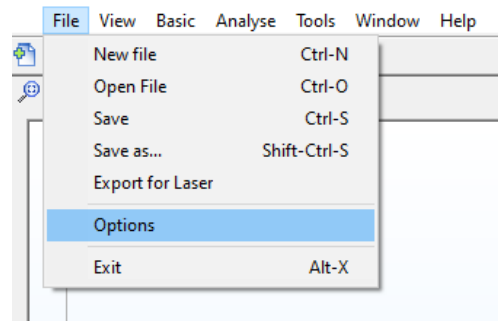

Figure 127
7. Open the Options Dialog (Figure 127).